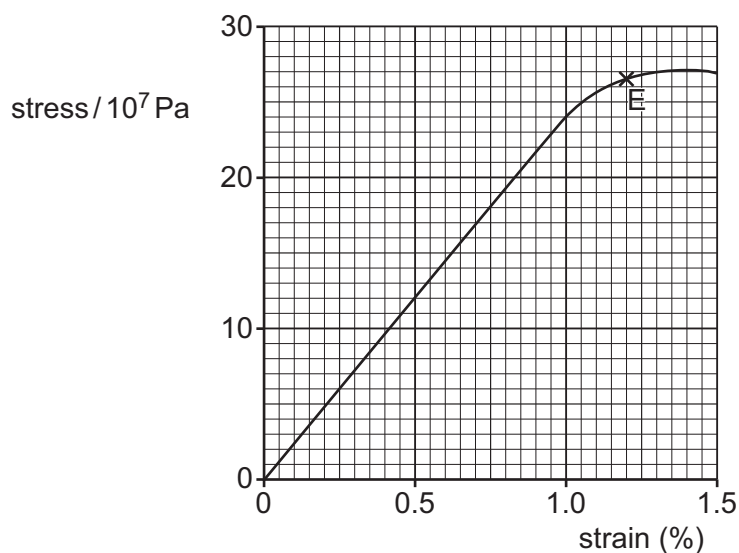

Fig. 3.1
- 3 (a) The variation of stress with strain for a metal P is shown in Fig. 3.1.
- (i) Use Fig. 3.1 to determine the Young modulus for P.
- (ii) On the line in Fig. 3.1, draw a cross (×) to show the limit of proportionality. Label this point Q.
Use Fig. 3.1 to state and explain whether the wire will behave plastically or elastically as the stress doubles.